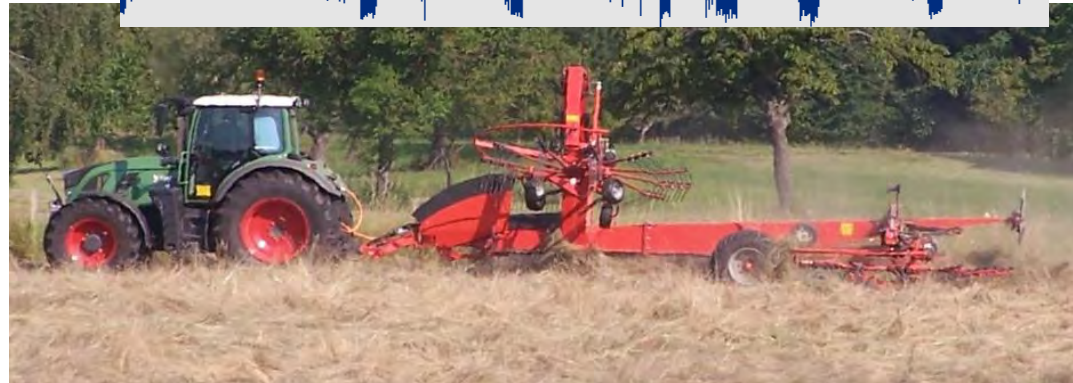

*Fig. 3 :
- Measurements of different parameters (voltage, amperage, torque...): Fig 3